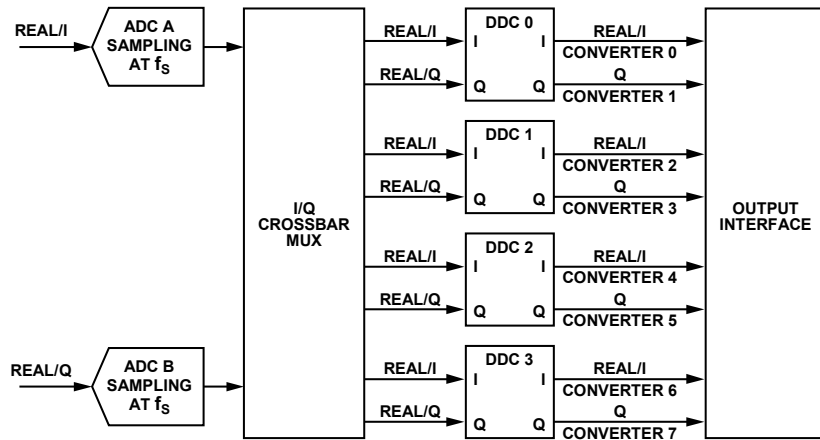

Figure 138. DDCs and Virtual Converter Mapping
The JESD204B Tx block for AD6674 supports up to four digital DDC blocks. Each DDC block outputs either two sample streams (I/Q) for the complex data components (real + imaginary) or one sample stream for real (I) data. The JESD204B interface can be configured to use up to eight virtual converters depending on the DDC configuration. Figure 138 shows the virtual converters and their relationship to DDC outputs when complex outputs are used. Table 34 shows the virtual converter mapping for each chip operating mode when channel swapping is disabled.
If the internal DDCs are used for on-chip digital processing, the M value represents the number of virtual converters. The virtual converter mapping setup is shown in Figure 138.